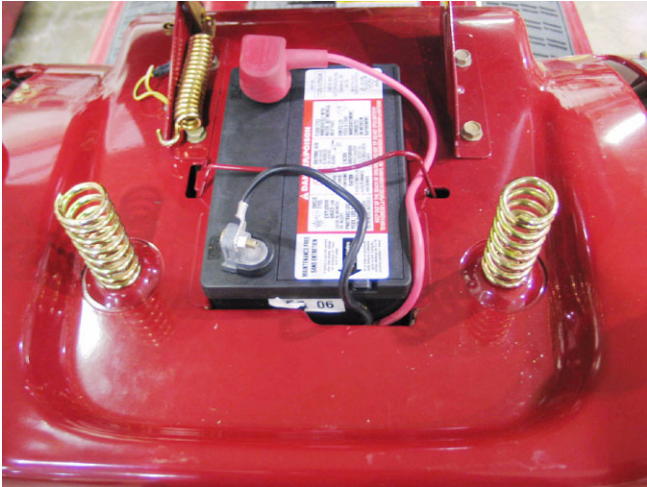

Figure 6.5
- 6.5. Access to the fill plug can be gained by removing the battery and the tray that supports the battery. See Figure 6.5.